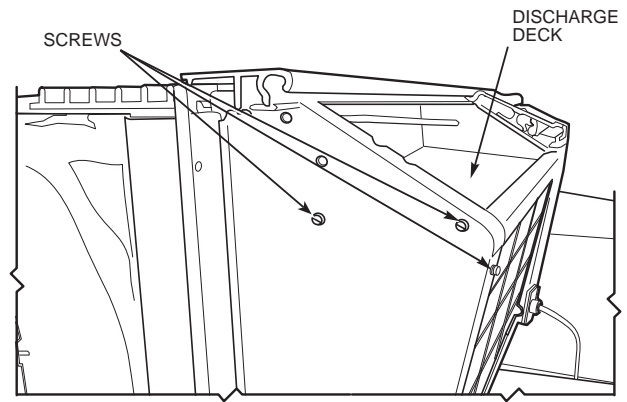

FIGURE 17 — DISCHARGE DECK REMOVAL
1. Remove the 2 discharge deck screws shown in Figure 17. Also remove the screw located at the top left corner of the outdoor coil tube sheet.